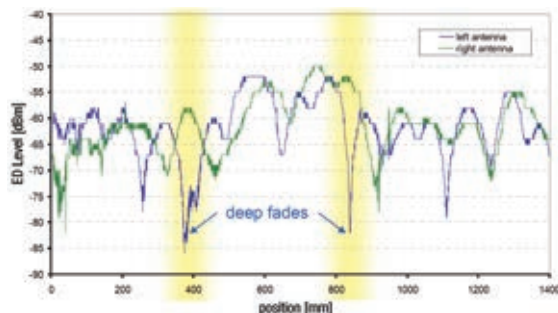

Figure 9: Multipath Propagation Fading Effects
The AT86RF231 AD-REB implementation makes use of both, space and polarization diversity. Polarization diversity is the ability to receive orthogonally polarized waves with independent propagation characteristics. Therefore the antennas are placed with a specific distance and angle. The distance can be derived, for instance, from the width of the deep fade regions as shown in Figure 9.
Node 1 (RX), equipped with two antennas, see Figure 9, is stepwise moved along a fixed track. Node 1 stops at each measurement point. It receives a frame and evaluates its energy detection (ED) level. [1]
To investigate the multipath propagation characteristics, (see Figure 9) the transmit power is set such that the average receiving power is between -60 to -65 dBm.
Exemplary, a measurement result of a 2.4 GHz multipath scenario in a laboratory environment is shown in Figure 9. One curve represents the received signal power at one single antenna. The received signal power is measured at each antenna separately using an ED measurement.
Figure 9 further shows that a distance of about  $\lambda/2$  between the two diversity antennas is required to effectively distinguish between different multipath channels. The AT86RF231 Antenna Diversity Radio Extender Board V-shape placement of the two antennas offers in addition linear antenna polarization. This improves the ability to separate between orthogonally polarized multipath channels.